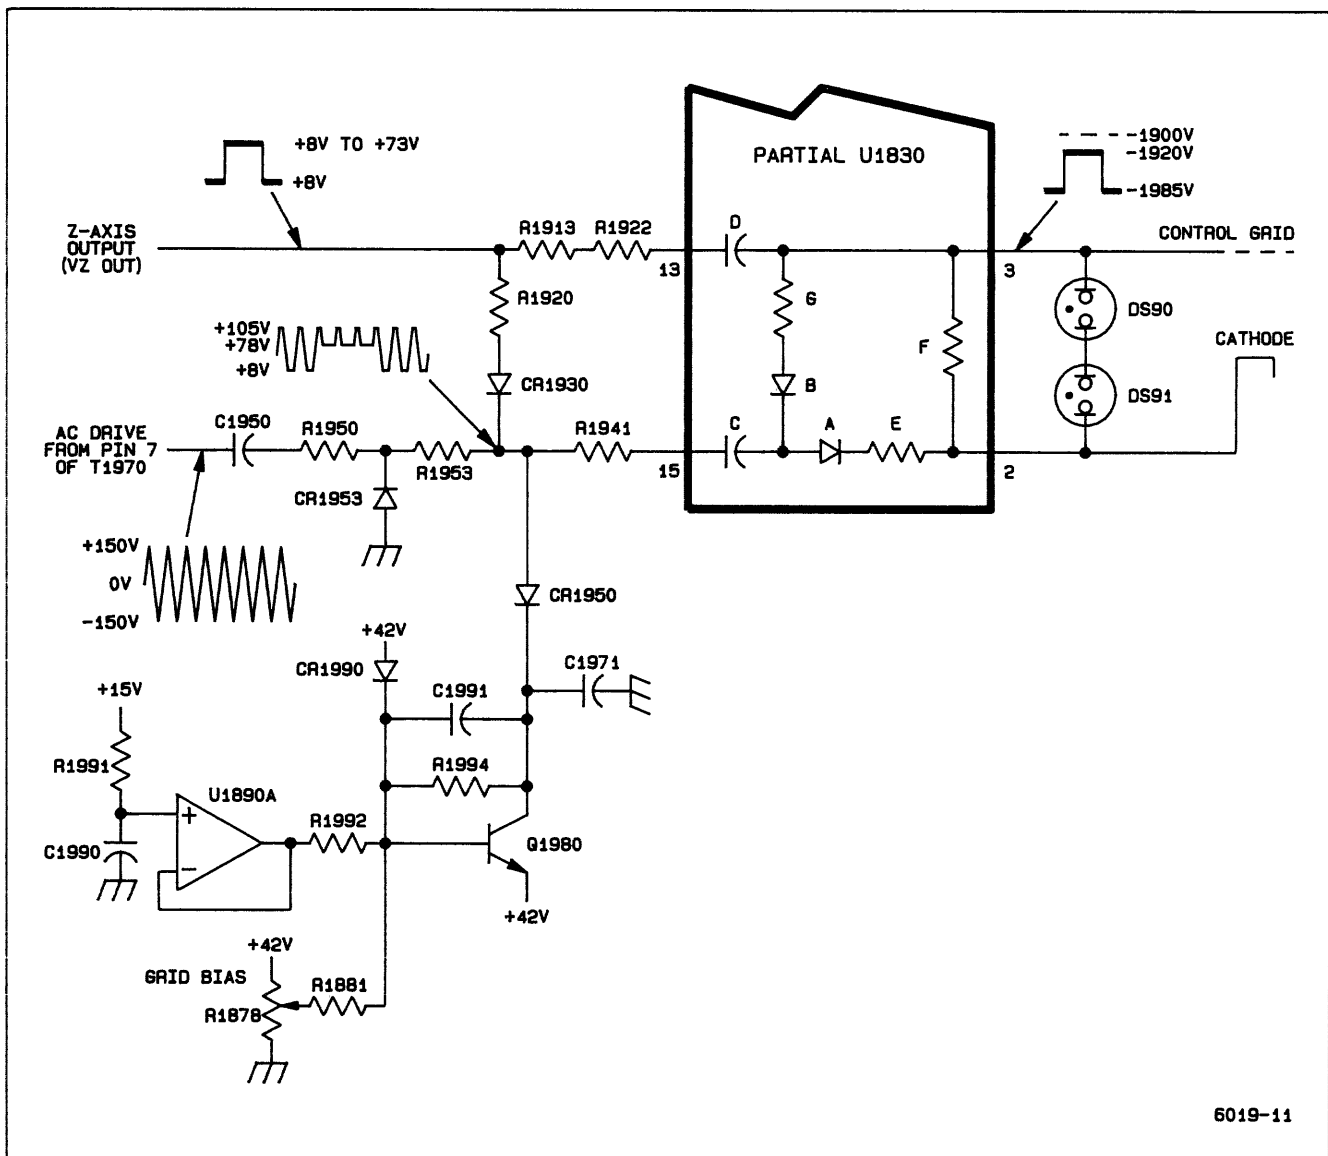

Figure 3-9. Dc restorer circuit (2465B only).
The DC Restorer circuit (Figure 3-9) operates by impressing the crt grid bias setting and the Z-Axis drive signal on an ac voltage waveform. The shaped ac waveform is then coupled to the crt control grid through a coupling capacitor that restores the dc components of the signal.
**DC RESTORATION.** The DC Restorer circuit in the High Voltage Module is referenced to the crt cathode voltage via a connection within U1830. Capacitor C (in Figure 3-9), connected to pin 15 of U1830, initially charges to a level determined by the difference between the Z-Axis signal level and the crt cathode potential. The Z-Axis signal sets the level on the positive plate of capacitor C through R1920, CR1930, and R1941; the level on the negative plate is set by the crt cathode voltage through resistor E and diode A. Capacitor D is charged to a similar dc level through resistors F, R1922, and R1913.